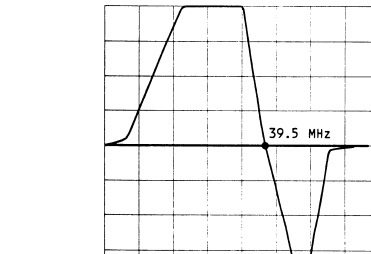

Fig.6
- 3. Adjust T106 (AFC COIL) for a waveform as shown in Fig.6.